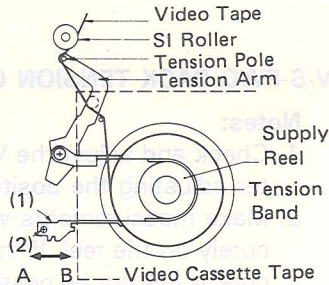

Figure 14
- 1. If the tension pole is less than 1.25 mm to the left of the center of the SI roller, move the tension band adjustment angle (1) in the direction of arrow B in figure 14 and tighten the screw (2).
- 2. If the tension pole is more than 1.75 mm to the left of the center of the SI roller, move the tension band adjustment angle (1) in the direction of arrow A in Figure 14 and tighten the screw (2).